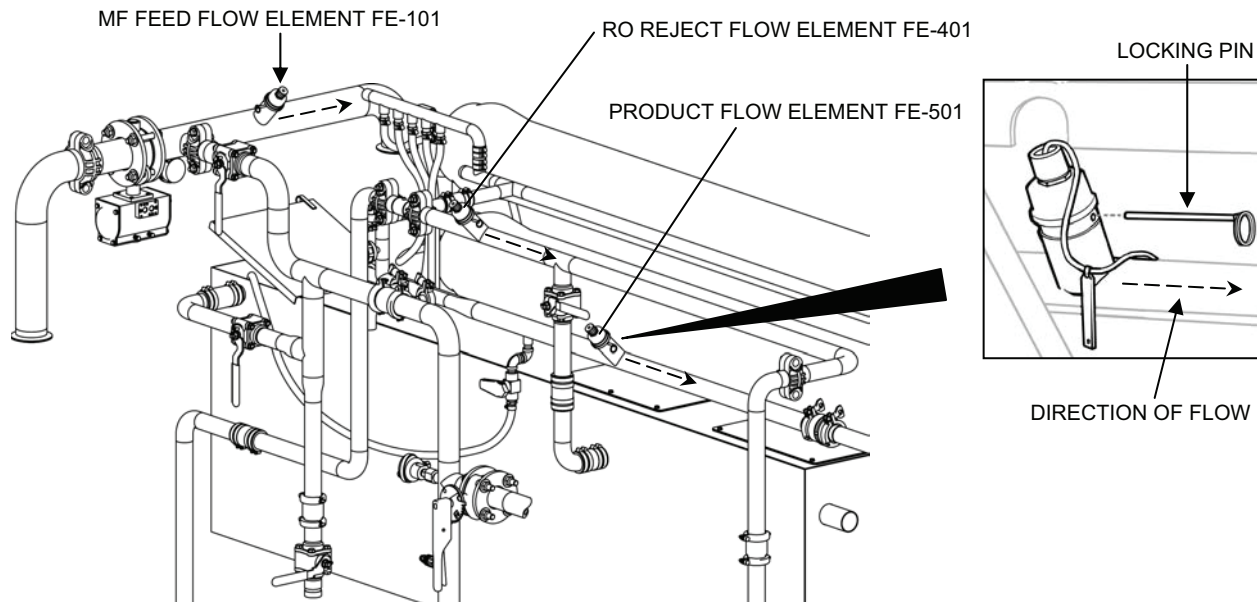

Figure 4. Tee-Mounted Flow Sensors.
- a. Remove the locking pin holding the sensor in place, then remove the sensor from the process pipe (see Figure 4 for the location of the flow sensors).